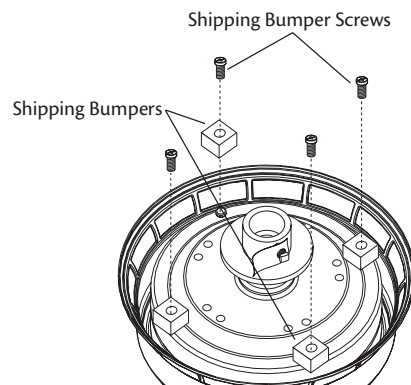

Figure 21 - Removing the shipping bumpers from the motor assembly
3. Remove the shipping bumpers from the top of the motor assembly as shown in Figure 21.